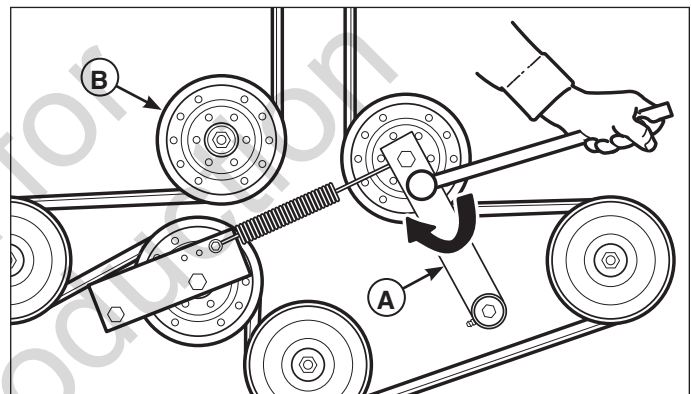

Figure 27. Mower PTO Belt
5. If belt is not properly seated, use a 1/2" breaker bar, and place the square end in the square hole located in the end of the idler arm (A, Figure 27). Carefully rotate the breaker bar clockwise, which will relieve the tension on the belt exerted from the idler arm.